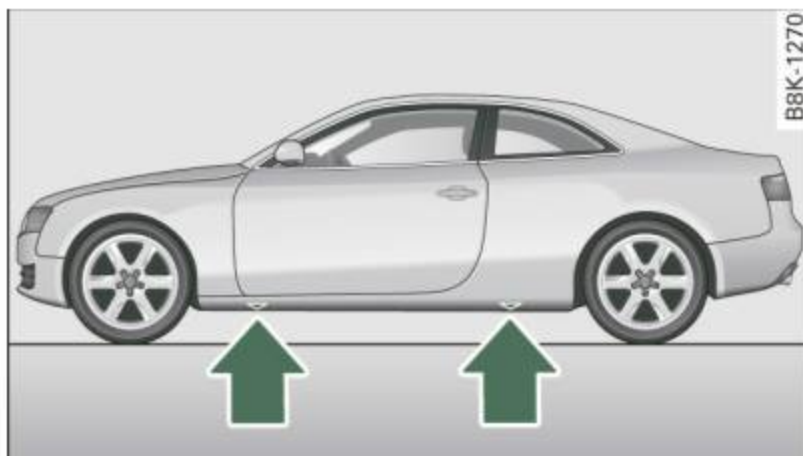

Fig. 224 Changing a wheel: mounting points for the jack
The location of the jack point is indicated by an indentation on the underside of the vehicle ⇒ fig. 224.
- Find the **lifting point** in the sill that is closest to the faulty wheel ⇒ fig. 224.
Only position the vehicle jack at the designated points ⇒ page 319, fig. 224. There is exactly *one* location for each wheel. Do not position the jack in any other locations.